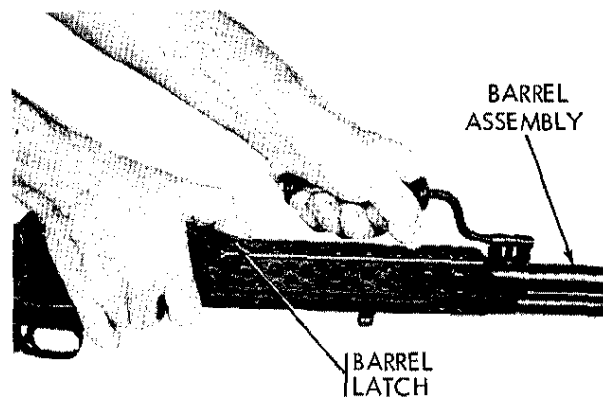

FIGURE 13. REMOVING BARREL ASSEMBLY
(2) Depress the barrel latch (fig. 13) and remove the barrel assembly by pushing forward on the carrying handle.